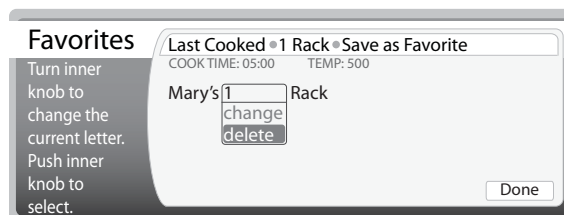

Figure 2.10: Changing or Deleting a Name
- A drop-down menu will appear with “change” and “delete” as selectable options (Figure 2.10).